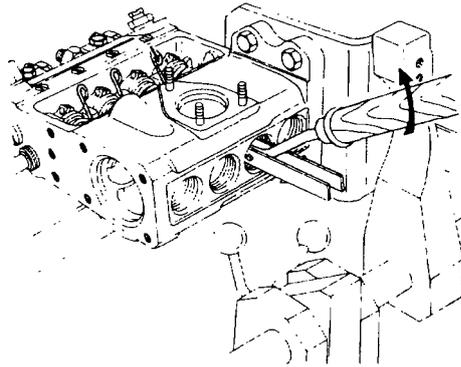

Figure 69 Removing the Tappet Holders
- x.** Position the injection pump with the plunger return springs uppermost. Install the return spring compression tool (Table 3, Serial 26) and in turn, compress each spring, remove the tappet holders and slowly release the pressure on the springs (Figure 69).